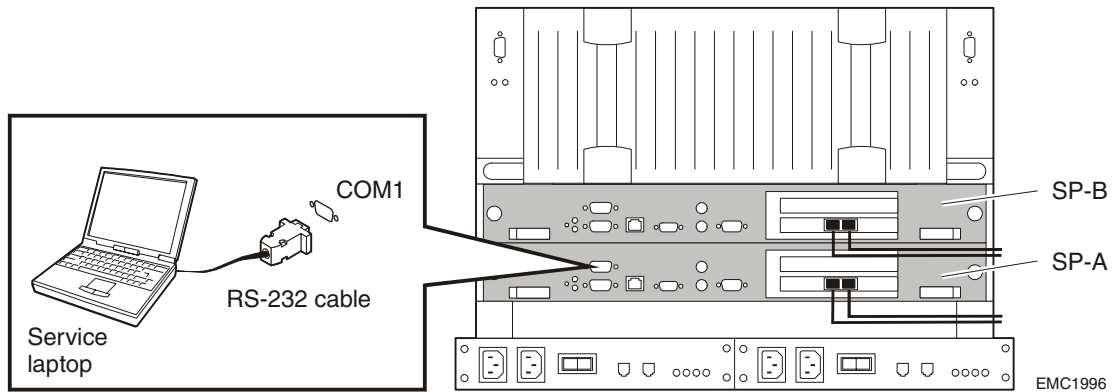

Figure 9 SP COM 1 Port
15. Connect the null modem cable between the laptop (port COM 1) and the SP-A service port COM 1, as shown in Figure 9.